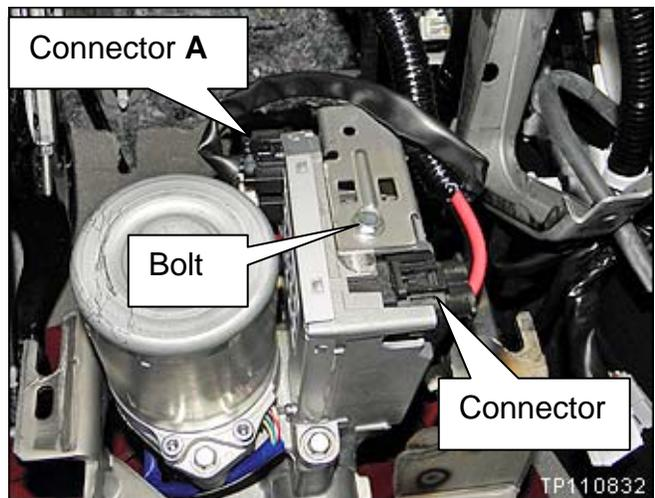

Figure 27
30. Disconnect the 2 electrical connectors shown in Figure 27.
31. Remove the bolt shown in Figure 27.